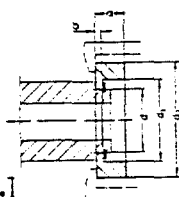

Fig.1
1. Mechanically adjustable variable speed pulley. Unscrew axial tightening screw (16) and remove end cap (14). The Disc.... See Fig.1. is a tooling aid. Assemble the disc behind the circlip of the pulley, and with an extractor remove the pulley (13) from the motor shaft.